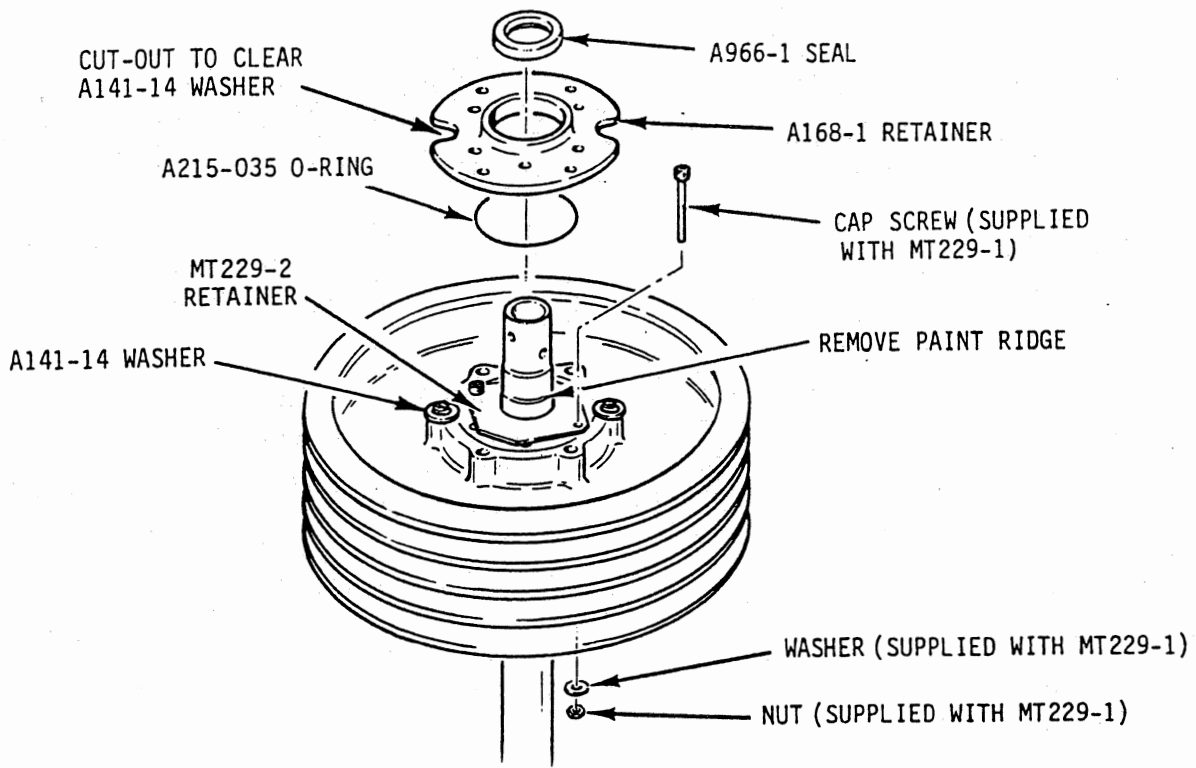

FIGURE 3
Note: remove paint ridge from clutch shaft as shown in Figure 3 using Scotch-Brite or 400 grit or finer sandpaper before removing retainer to prevent damage to new seal during installation.
- 4) Install MT229-2 retainer using supplied hardware as shown in Figure 3. Torque cap screws to 30 in.-lb. Remove remaining two NAS1304-27 bolts.